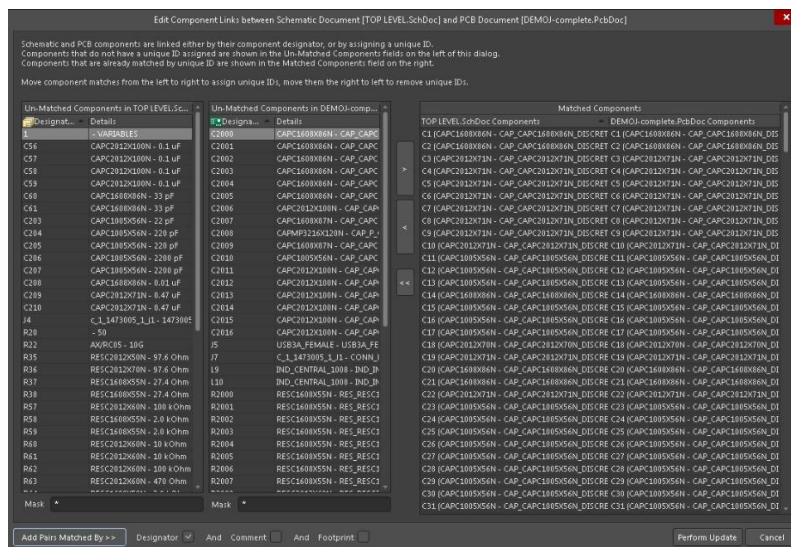

Fig. C.2 - Matching unmatched components in Altium Designer
3. Click on the **Add Pairs Matched By >>** button to automatically match unmatched components (Fig. C.2).